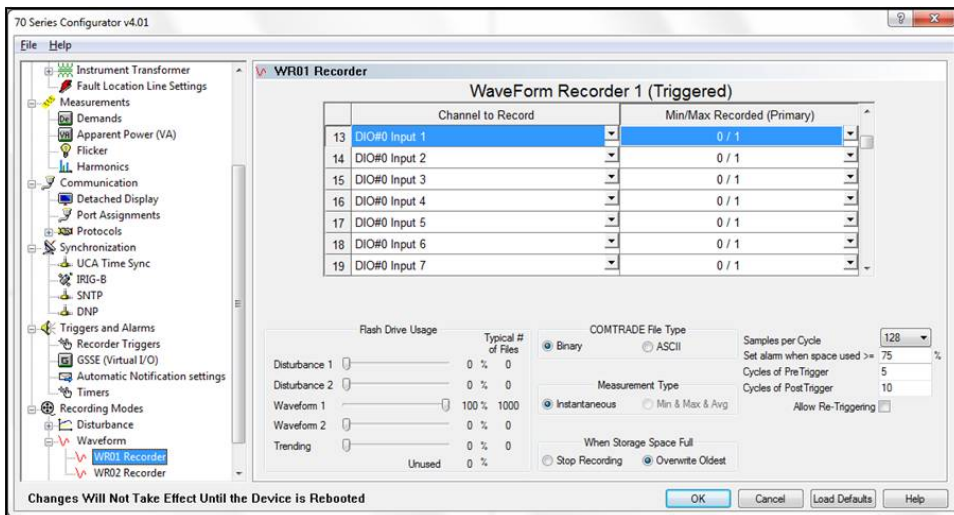

FIGURE B3. STATUS ON P32 CARD INCLUDED IN OSCILLOGRAPHY RECORD WR1.
2. Configure the WR1 or WR2 recorder to include the status of the inputs from the P32 card. (See Figure B3.)